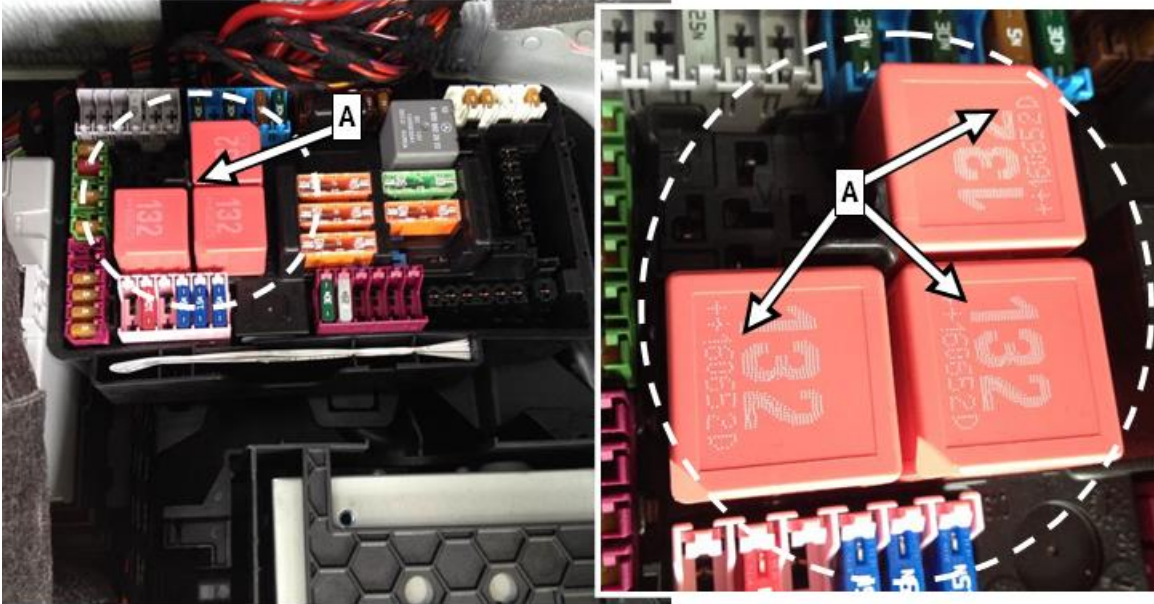

Figure 1
3.  Check manufacture date of three relays (A, Figure 1) in rear fuse and relay module.